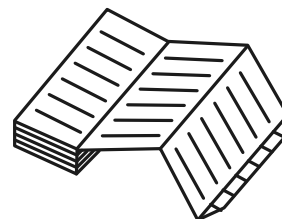

Fig. 3
3. As shown in Fig. 3, insert the recording paper with the "begin" tab placed in the cartridge. Check that the printed side is facing out.
Turn the power switch ON. The pen will move inward on the circular recording paper and stop temporarily at the 0% position (equivalent to the 40 °C line). Then the ink pen will move to the position which indicates the measured temperature. (Fig.3)